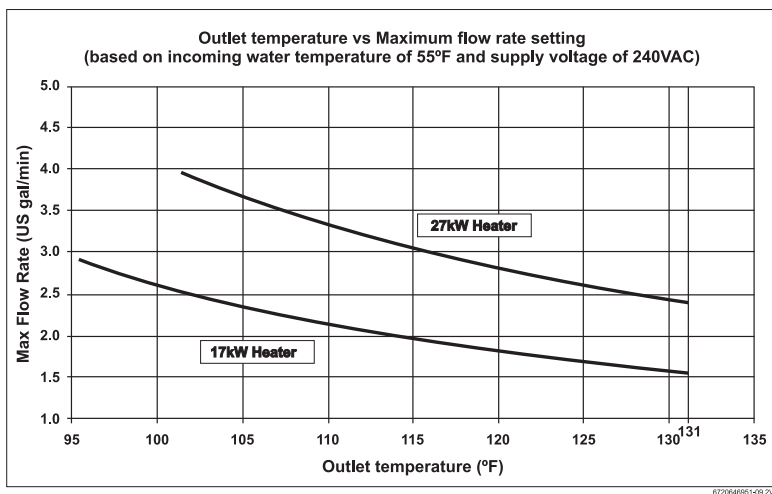

Fig. 11
- ▶ Adjust the inlet shut-off valve until the water flow rate from the hot faucet corresponds to the value given in Fig. 11 below.
- Adjust the inlet shut-off valve until the water flow rate displayed on the unit corresponds to the value given in fig. 11 below, noting any derate due to supply voltage. Derate for 208 and 220V is noted at the bottom of Table 5.
These figures are based on an inlet water temperature of 55 °F and a supply voltage of 240 volts. If the inlet water temperature is lower than 55 °F, or if the supply voltage is less than 240 volts, then the outlet temperature will be lower than what is shown in Fig. 11. If a higher outlet water temperature is desired, then reduce the flow rate and/or supply the unit with 240 volts. Please review Table 5 for derate percentage for supply voltage of 208VAC and 220VAC.
The inlet water temperature is too cold	<p>Verify the heater is sized appropriately for it's geographic location. Turn temperature knob located on the front of the water all the way clockwise for maximum temperature setting. Ensure flow rates are within the heater's specifications. → Refer to Fig. 11 in section 4.6 Starting Up of the manual. Use of an isolation valve on the cold water inlet to control flow rate is recommended.</p>
Temperature dial is turned too low	Turn the temperature dial located on the front of the water heater clockwise for hotter temperatures. → Refer to Fig. 11 for outlet temperature vs. flow rate variance.
Water flow is too high	Adjust water flow to stay within the water heater's specifications. → See Fig. 11 of this manual.
Inlet shut-off valves are set too low	Adjust installer supplied inlet valve as described below: <ul style="list-style-type: none"> <li>• Completely open both installer supplied inlet and outlet shut-off valves at the heater. (if none installed, install before proceeding).</li> <li>• Completely open hot water on the highest flowing hot water fixture served by the heater (i.e. bathtub).</li> <li>• Slowly close the inlet shut-off valve, slowing the water flow rate until the temperature at the hot water faucet corresponds to the values given on →Fig. 11 of the manual, or desired water temperature is reached.</li> </ul>